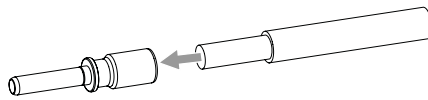

Fig. 3:
1. Push the bare cable braid into the connection area of the contact (*Fig. 3*).